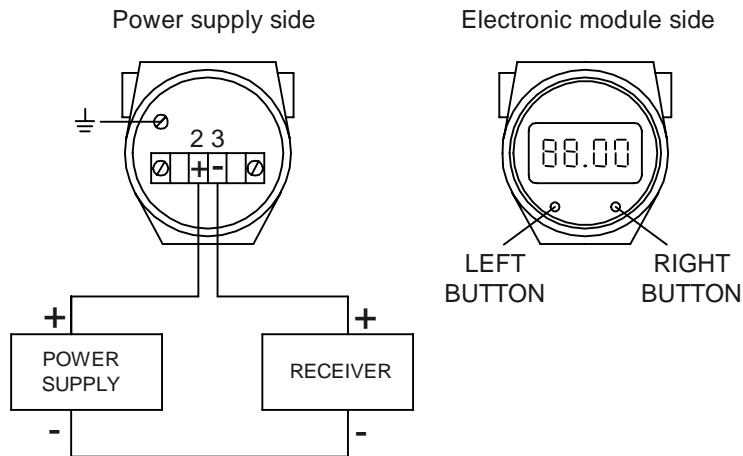

Figure 10 Housing, Covers removed
- ✓ The Figure 10 shows both sides of the housing with covers removed.